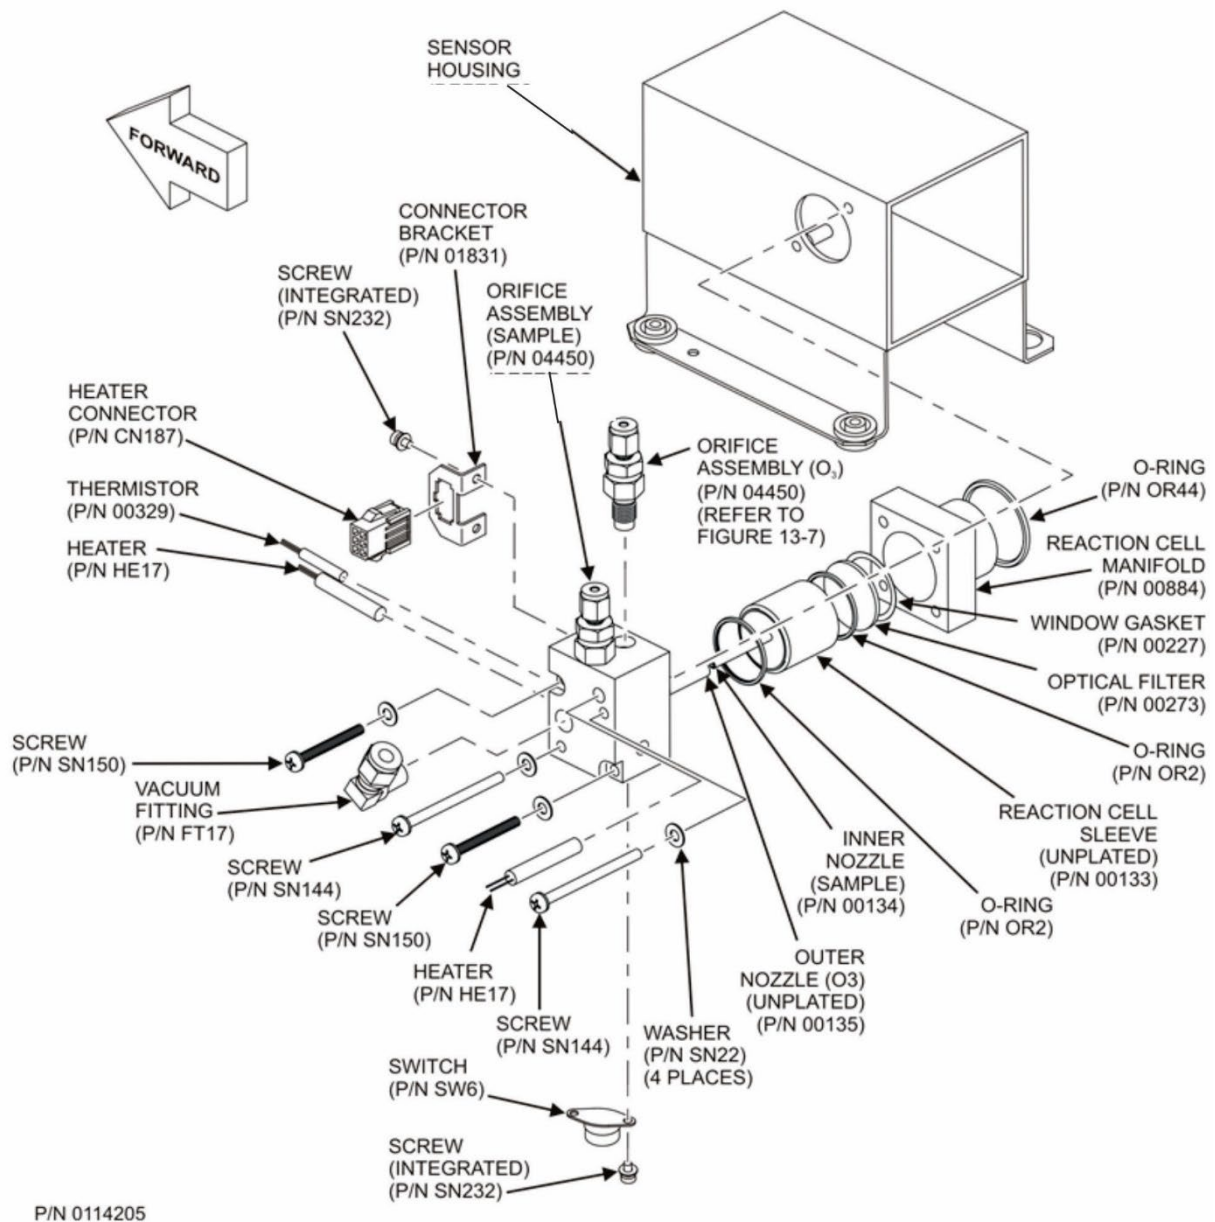

Figure 5-10. Reaction Cell Assembly
To clean the reaction cell, it is necessary to remove it from the sensor housing. Refer to Figure 5-10 for the following procedure.
2. Remove the analyzer cover and locate the reaction cell assembly (refer to Figure 2-3 and Figure 5-10).